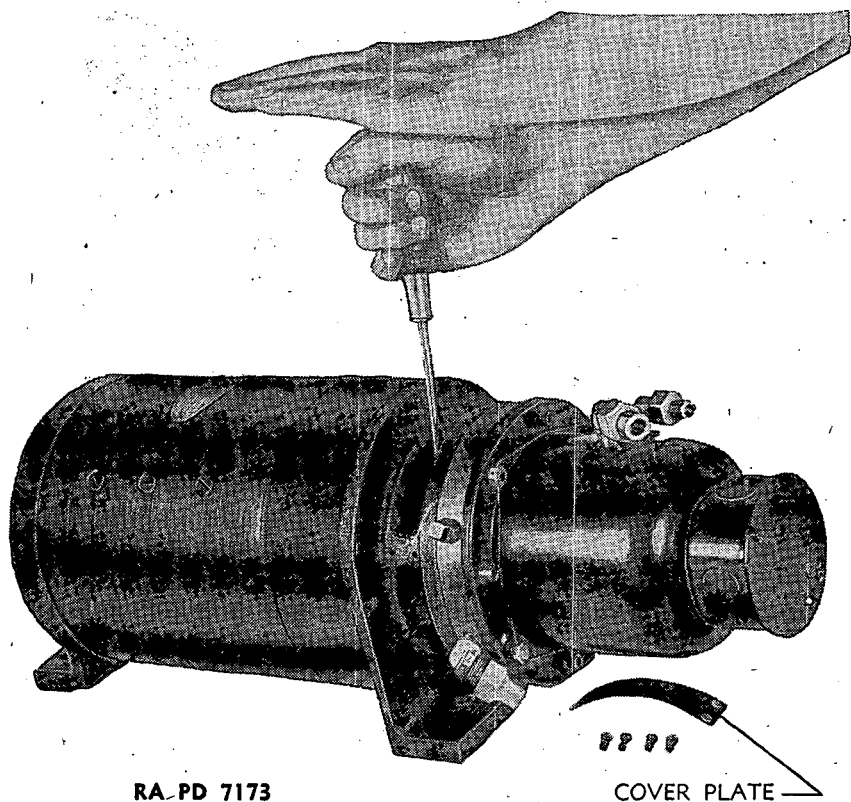

FIGURE 103.—Oil pump and motor, showing tightening of pump packing gland, gyro-stabilizer unit.
a. Tighten the packing gland on the oil pump shaft by first removing the cover plate (fig. 103) and take up on the packing gland nut slightly, using a screw driver, turning it in a clockwise direction (right-hand thread). Do not get it too tight.